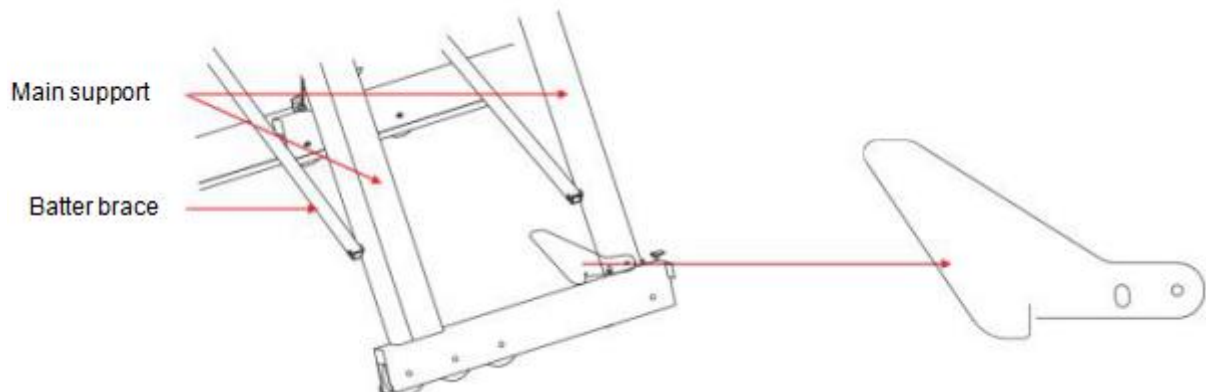

Figure 1-3 Row lock
- 5) After opening, if it is a folding chair, please turn over the seat, if it is bench and low-backrest seat etc., no such operation. After the system is turned on, check the connection lock whether close. (Row lock: see Figure 1-3)